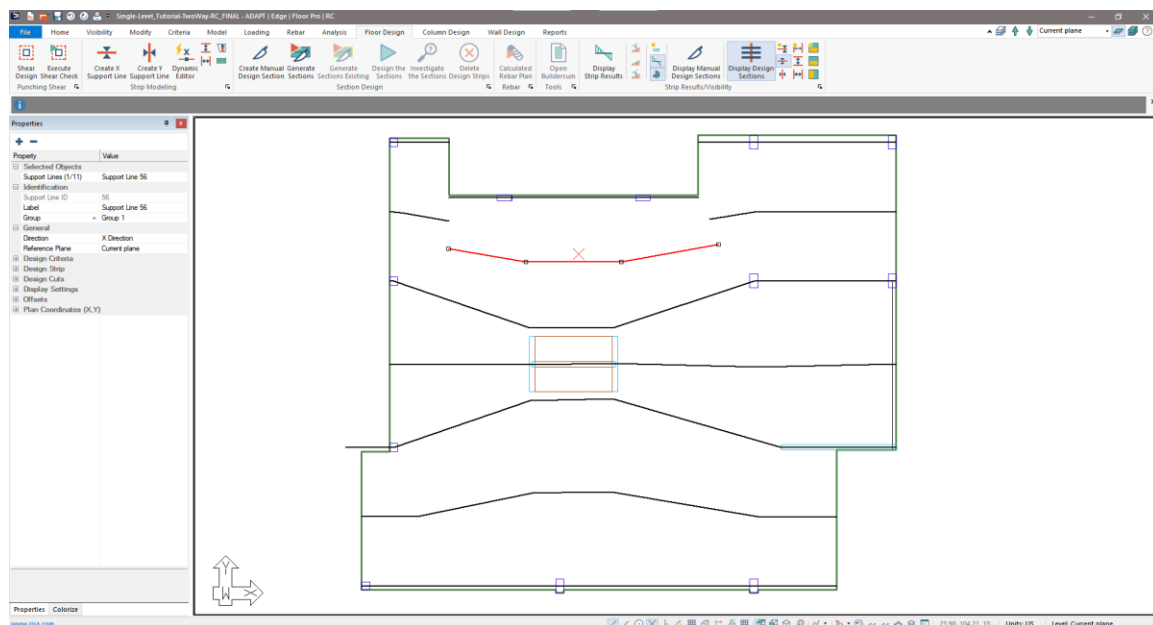

Figure 6-25
- Select the first middle strip north of the core wall and left-click on the left most point to “grab” it. Move this point to the left to cover the gap between this support line and the middle strip to the left. In addition, use the *Delete Verticies* tool to delete extra verticies along this support line. When finished the user’s screen should appear similar to **FIGURE 6-25**.